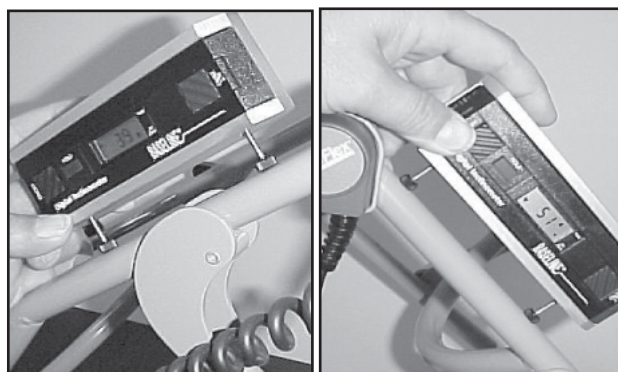

FIGURE 5.6
10. Using the Inclinator or Protractor, measure the angle of the flexion of the unit. **Refer to Figure 5.6.**
In **Figure 5.6**, a Digital Inclinator is used to measure each side and the two numbers are added together.